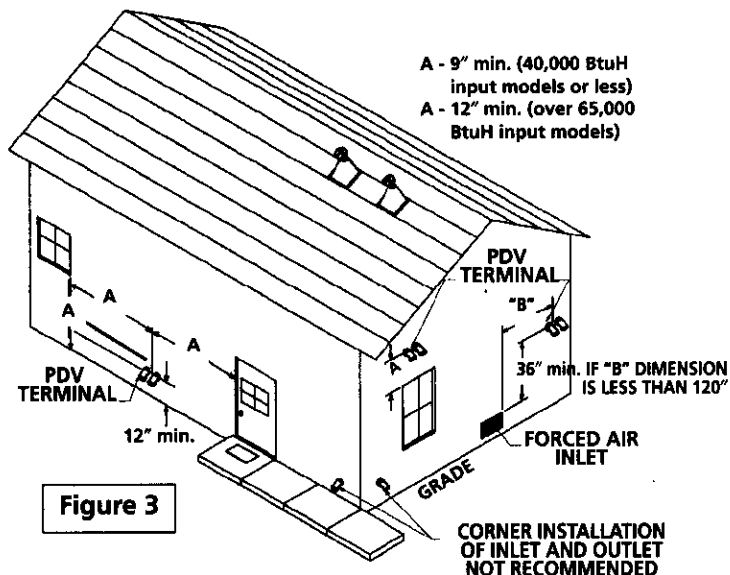

Figure 3
- The Power Direct Vent outlet terminal shall terminate at least 36" above any forced air inlet located within 10 feet. Figure 3, page 12.
- The Power Direct Vent outlet terminal of 40,000 Btuh or less models shall terminate at least 9" below, 9" horizontally from or 9" above any door, window or gravity air inlet into the building. Figure 3, page 12.
- The Power Direct Vent outlet terminal of 65,000 and 70,000 Btuh models shall terminate at least 12" below, 12" horizontally from or 12" above any door, window or gravity air inlet into the building. Figure 3, page 12.
- 18" minimum in all directions from any obstruction that may interfere. Figure 3, page 12.